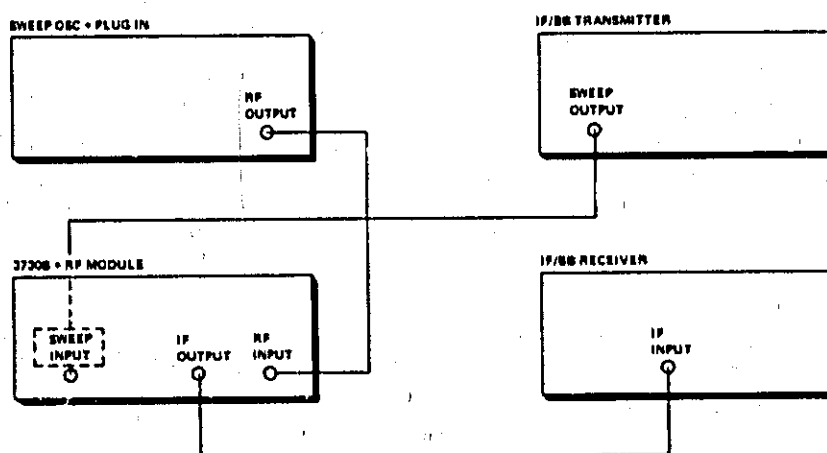

Figure 5-4 IF Flatness Adjustments, Test Equipment Connection
4. Connect the test equipment as shown in Figure 5-4. Reduce the SWEEP LEVEL control to 0.